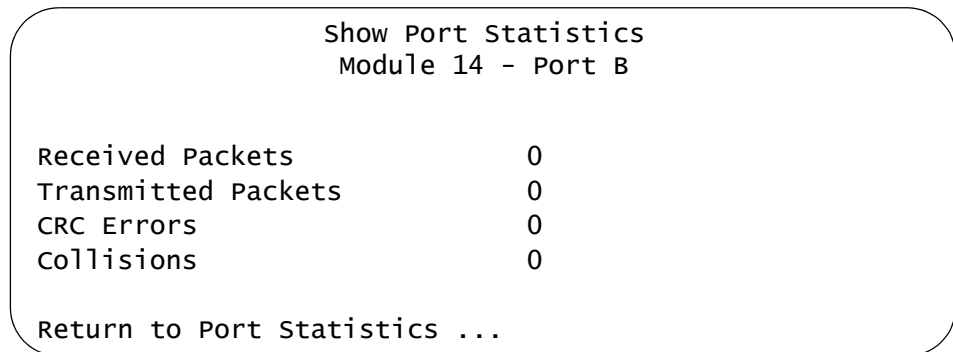

Figure 66. Show Port Statistics Window
5. From the Port Management Menu, select **Port Statistics**. The example Show Port Statistics window in Figure 66 is from the AT-CM2KOS Line Card. All other AT-CM Line Cards have counters for just CRC errors and collisions.